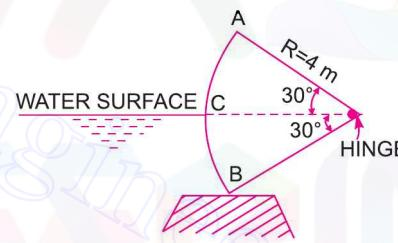

Fig. 3.60
21. Find the horizontal and vertical components of the water pressure exerted on a tainter gate of radius 4 m as shown in Fig. 3.60. Consider width of the gate unity. [Ans.  $F_x = 19.62$  kN,  $F_y = 7102.44$  N]